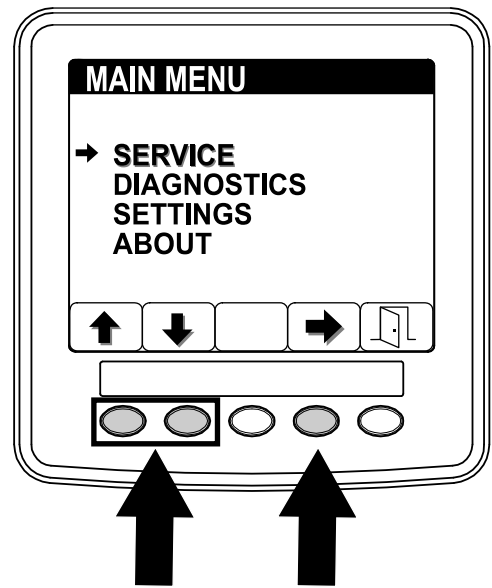

Figure 5
- On the MAIN MENU, press button 1 or button 2 to navigate to the SERVICE option, and press button 4 to select the SERVICE entry (Figure 5).